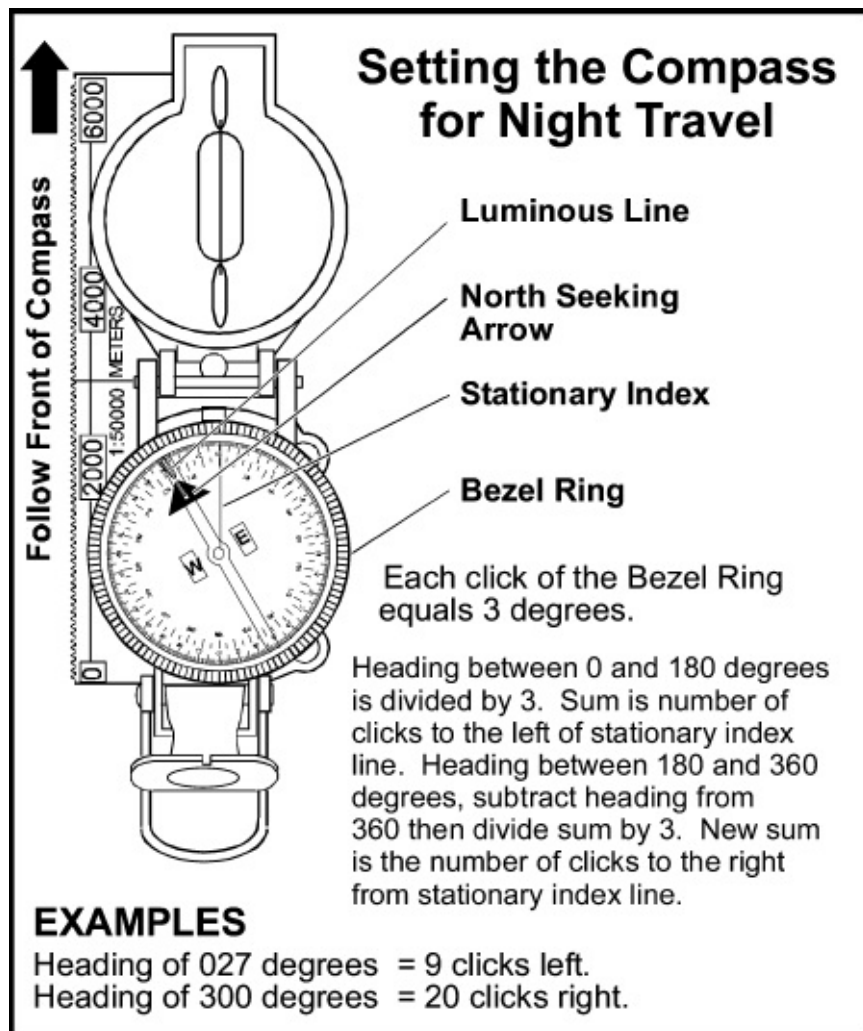

Figure 2-8. Compass night navigation setup
(1) Setting up compass for night navigation (**Figure 2-8**).
(2) Aligning north-seeking arrow with luminous line and follow front of compass.
(3) Using point-to-point navigation.